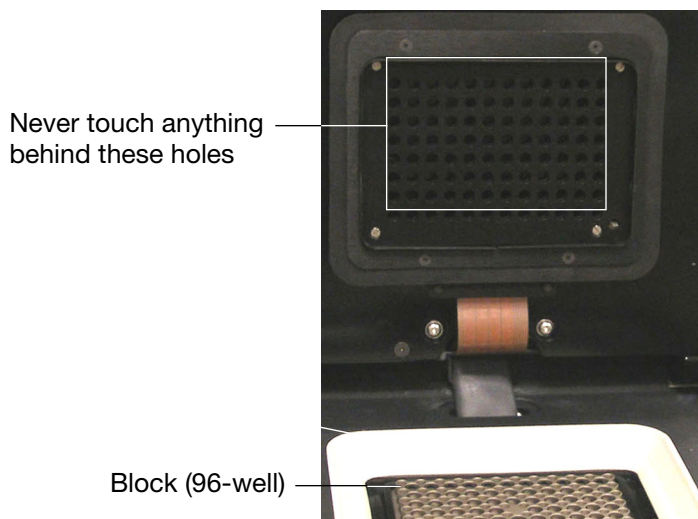

Figure 82. Heating plate holes in the inner lid.
- Never clean or otherwise touch the optical system behind the heater plate holes that are in the inner lid (Figure 82 on page 105)
WARNING! Never touch or allow solutions to touch the optical system that is located behind the heater plate holes in the inner lid (Figure 82).